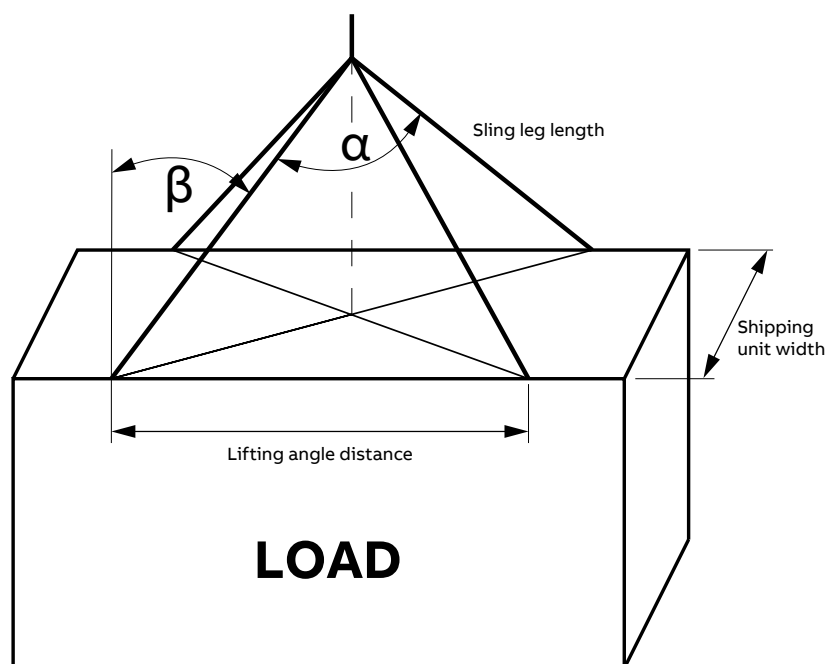

Figure 3-16 Four legs sling arrangement and legs angle at crane hook definition
- Lifting capability of four legs sling at legs angle at crane hook "α" (angle depend of length of sling leg, lifting angle distance, shipping unit width – see Figure 3-16) must be equal or bigger than mass of transported shipping unit.
- The sling legs angle at the crane hook "α" must not be larger than 120° (see Figure 3-16). Furthermore, for MNS Rear IP31/41 raised roof plate, the "α" must not be larger than 80°.